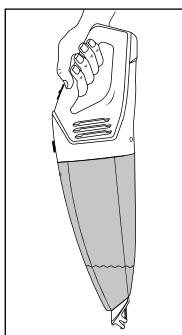

Fig. 3
- If you have vacuumed liquids, always carry the appliance with the wet suction nozzle **1** pointing downwards (see fig. 3):